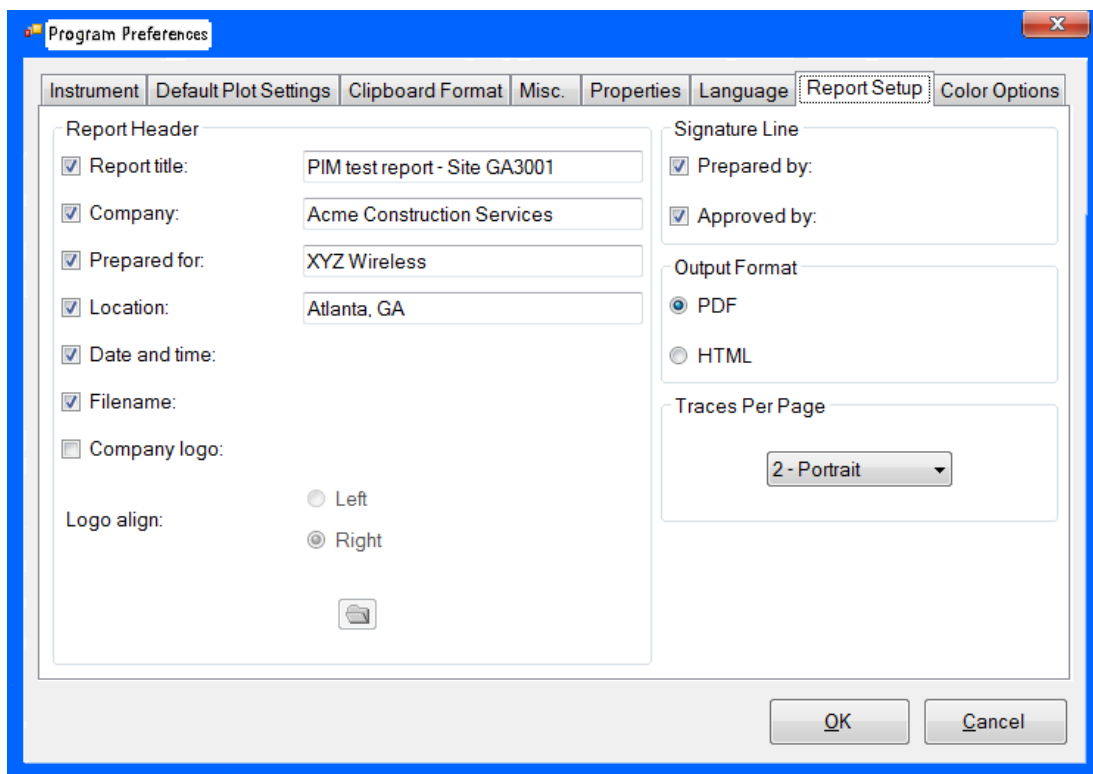

Figure 7-7. Report Setup Tab
To use the report generator in Line Sweep Tools, go to File menu and select **Report Setup** to determine how you want the report to appear. In the example in Figure 7-7, the report is set up to include the name of the contractor that did the work (Company field), the company for which the report is prepared, and the testing location. The report will be generated in PDF output format.
3. Go to **File > Report Setup** to specify the desired appearance of the report (See Figure 7-7 on page 7-7). Select the desired report header fields, the signature line options, the output format, and the number of traces to appear on each page. Then select **OK**.